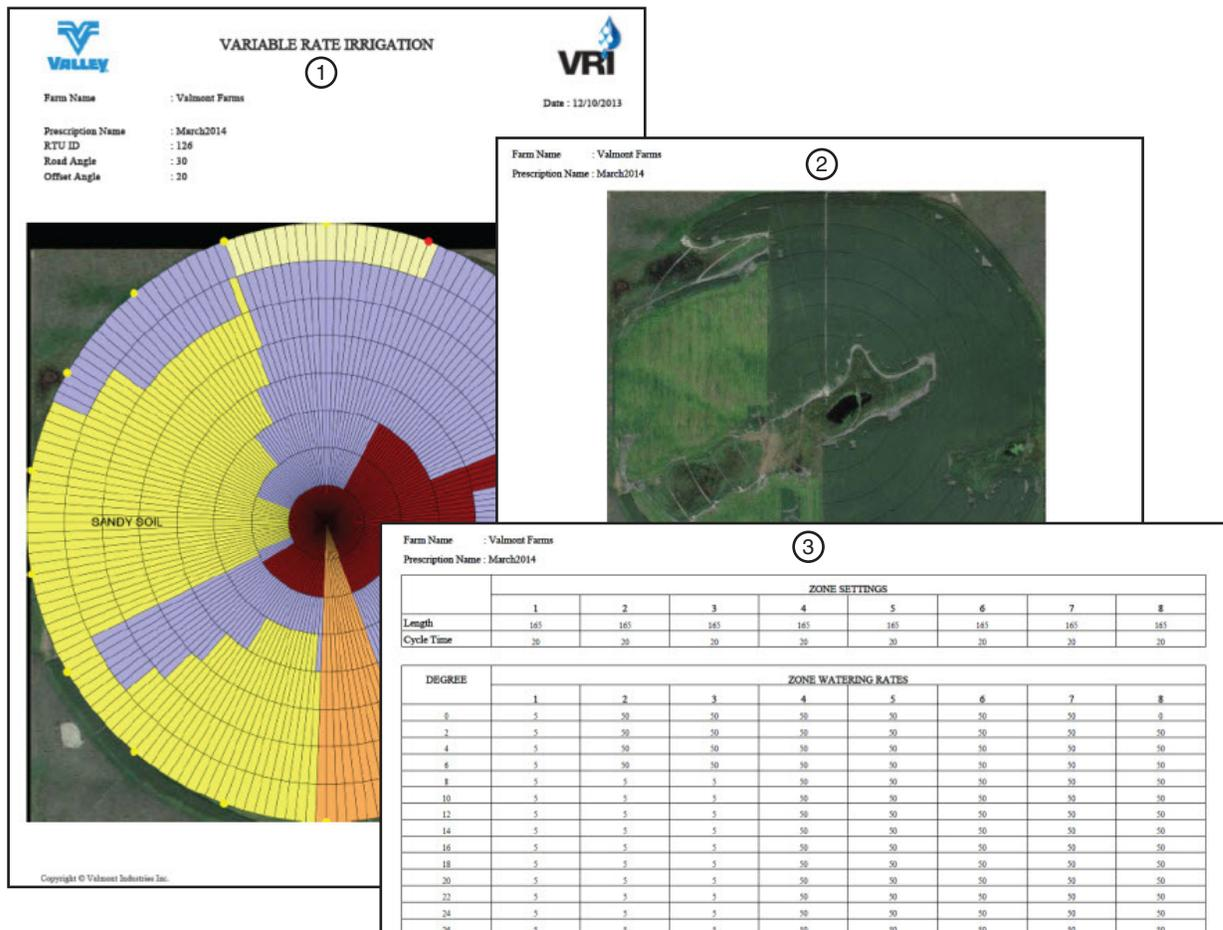

Figure 31-2 1. Cover Sheet
- a. Cover Sheet - Includes Farm Name, Date the PDF was created, Prescription Name, RTU ID, Road Angle, Offset Angle, and a colored picture of the grid. (Refer to Figure 31-2.)
- b. Image Page - Includes the Farm Name, Prescription Name, and a colored copy of the image used in the prescription. (Refer to Figure 31-2.)
- c. Zone Information - Includes the Farm Name, Prescription Name, Zone Settings for Length and Cycle Time, and Zone Watering Rates for all zone sectors from 0 to 358 degrees. (Refer to Figure 31-2.)